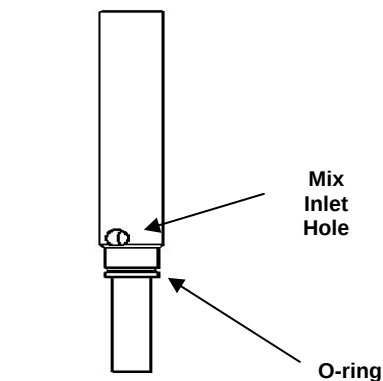

Fig. 22 Carburetor Tube Assembly
4. Install the o-ring on the carburetor assembly (Fig. 22). Apply lubricant sparingly over the o-ring. Place the assembled carburetor tube in the bottom of the mix pan for sanitizing.